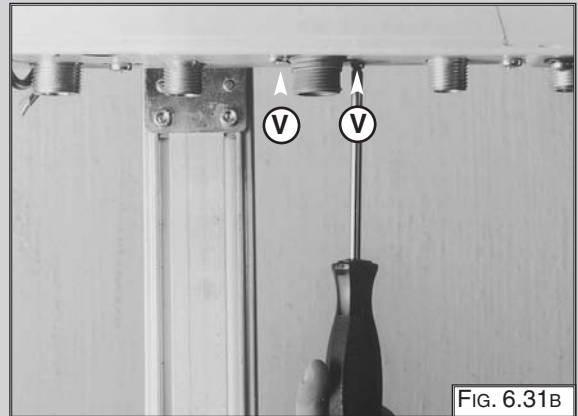

FIG. 6.31B
4. Remove the screws "V" from the bottom of the gas valve (FIG. 6.31B);